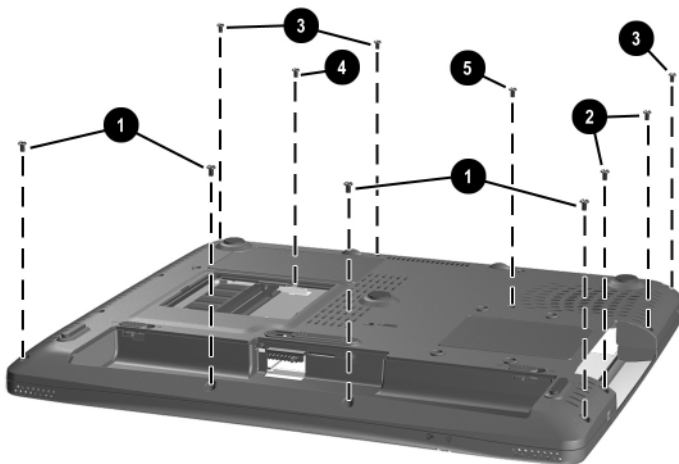

Figure 5-22. Removing the Top Cover Screws
3. Remove the following TM2.5 × 7.0 screws (Figure 5-22):
- ☐ Four screws along the notebook front edge ❶
- ☐ Two screws on each side of the hard drive bay ❷
- ☐ Three screws on the rear edge of the notebook ❸
- ☐ One screw in the memory expansion compartment ❹
- ☐ One screw near the fan vent ❺